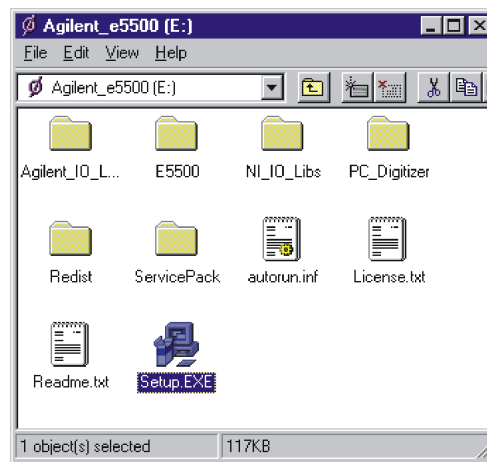

Figure 1-10 Contents of E5500 Phase Noise Measurement Software CD-ROM
- 2 Place the E5500 Phase Noise Measurement Software CD-ROM in the CD-ROM drive. The dialog box shown in Figure 1-10 appears.